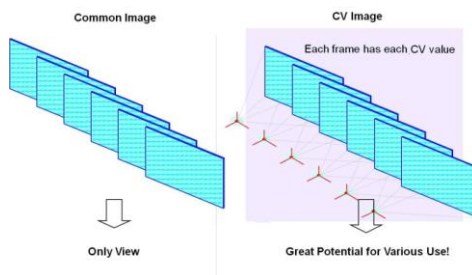

Fig.2 Comparison between common image and CV image
Camera vector (CV) is the core technology of the IMS3. CV value means camera vector with six degrees of freedom of shooting camera which are three dimensional positions and attitude angles of camera when shooting. The process for figuring out CV value is called CV calculation. As shown in Figure 2, before carrying out CV calculations, images can only be viewed. However, after the CV calculations, the images can be used to measure coordinates of objects depicted within frames.